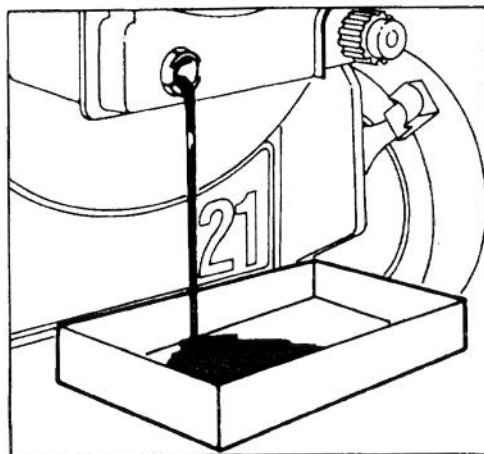

Figure 18
3. Remove dipstick. Tip mower forward and empty all oil into drain pan (Fig. 18). Tip mower down and up a few times to ensure oil drains completely.